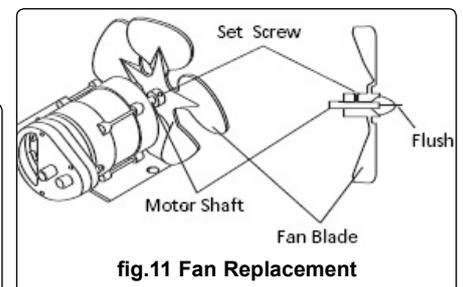

fig.11 Fan Replacement
- 7.8. **FAN BLADES** (fig.11) should be cleaned at least once per heating season (depending on environment). Remove the outer case and clean the fan blades with a damp cloth. Dry fan thoroughly using compressed air.